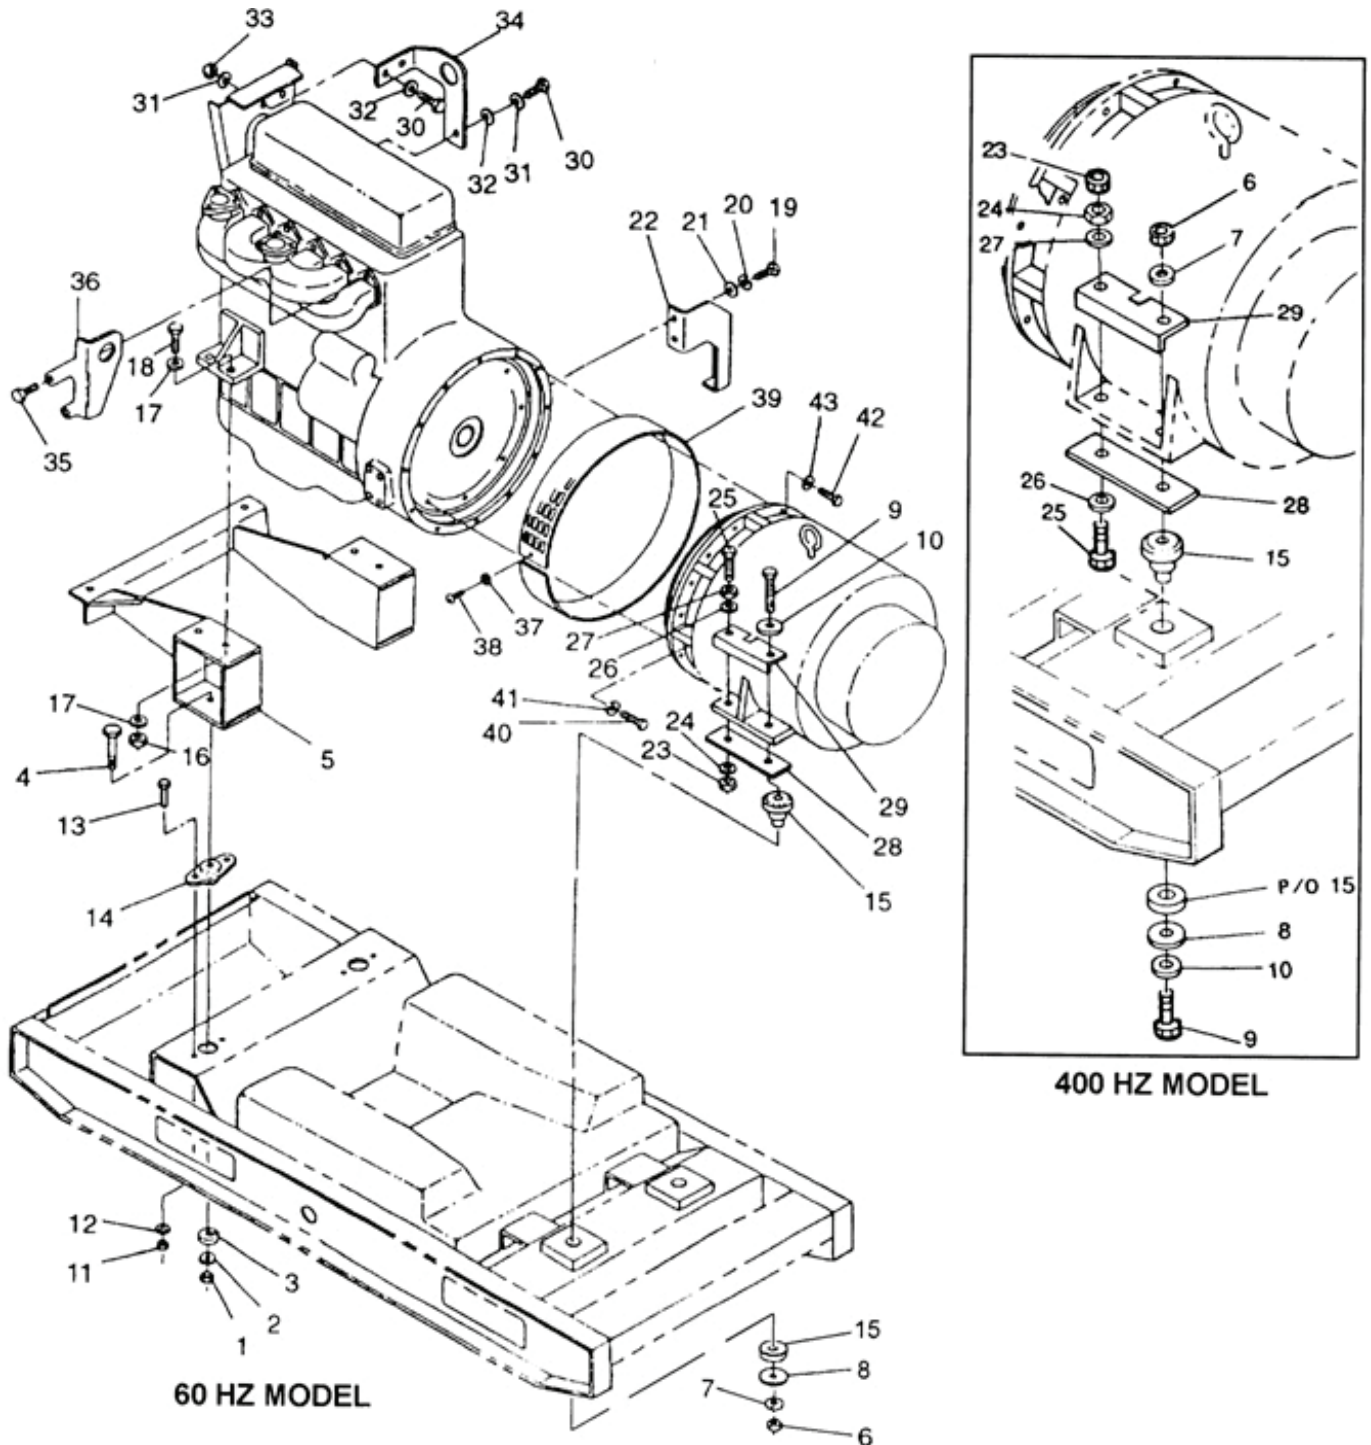

Figure 3-1. Engine and Generator Assembly – MEP-804A/MEP-814A.
- j. Remove nuts (1, Figure 3-1), washers (2), snubbing washers (3), and bolts (4) from engine support bracket (5).
- l. Remove nuts (6), washers (7), snubbing washers (8), bolts (9), and Belleville washers (10) from generator mounts.
- a. Install bracket (36, Figure 3-1) on engine with bolts (35).
- b. Install bracket (34) on engine with bolts (30), new lock washers (31), washers (32), and nuts (33).
- c. Install engine shock mounts (14) on skid base with bolts (13), washers (12), and nuts (11).
- d. Position generator shock mounts (15) in skid base.
- e. Install engine support bracket (5) on engine with bolts (18), washers (17), and nuts (16). Torque nuts to 31 ft-lbs (42 Nm).
- f. Install engine support brackets (22) on engine with bolts (19), new lock washers (20), and washers (21).
- g. Install generator mount angles (29) and plate (28) on generator with bolts (25), washers (24 and 26), and nuts (23 and 27).